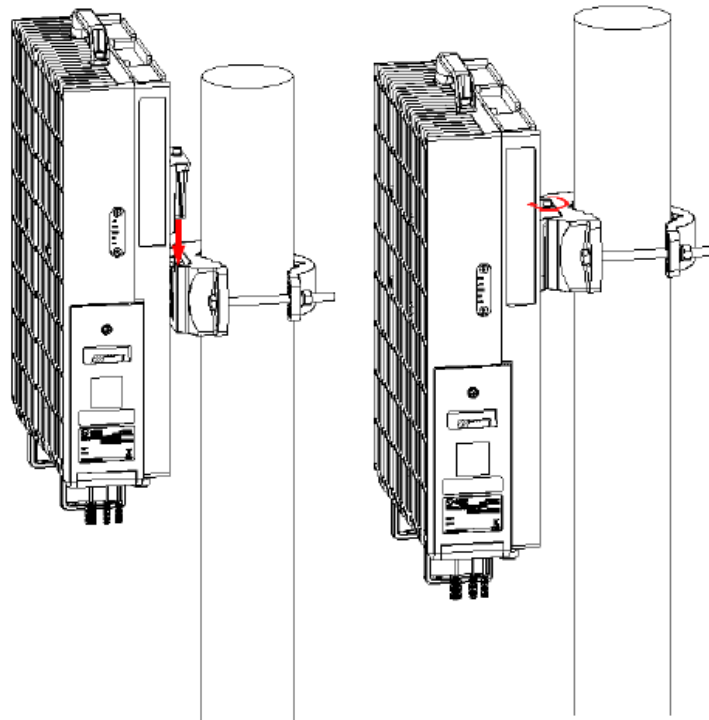

Figure 3-11 Install the RRU by holding pole
4. Mounting the RRU: Hold the RRU with both hands and keep the mounting back frame directly above the pole fixing part. Move it down to fix the mounting back frame with the pole mounting part; pass the fastening screw through the top of the mounting back frame and the connecting hole of the pole mounting part, and tighten it with the hexagon screwdriver, as shown in Figure 3-11.